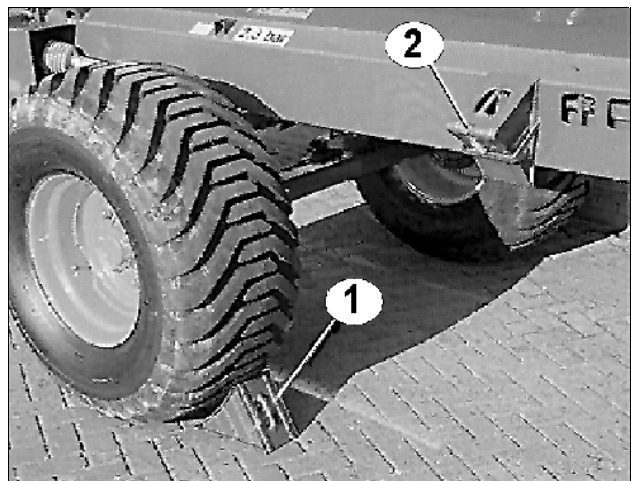

Fig. 23
- Before the **ZG-B** is uncoupled, the two chocks (Fig. 23/1) must be applied to ensure that the machine cannot roll away. When the spreader is in transit, the chocks (Fig. 23/2) are placed in the holders on the main frame and held in place by spring clips.